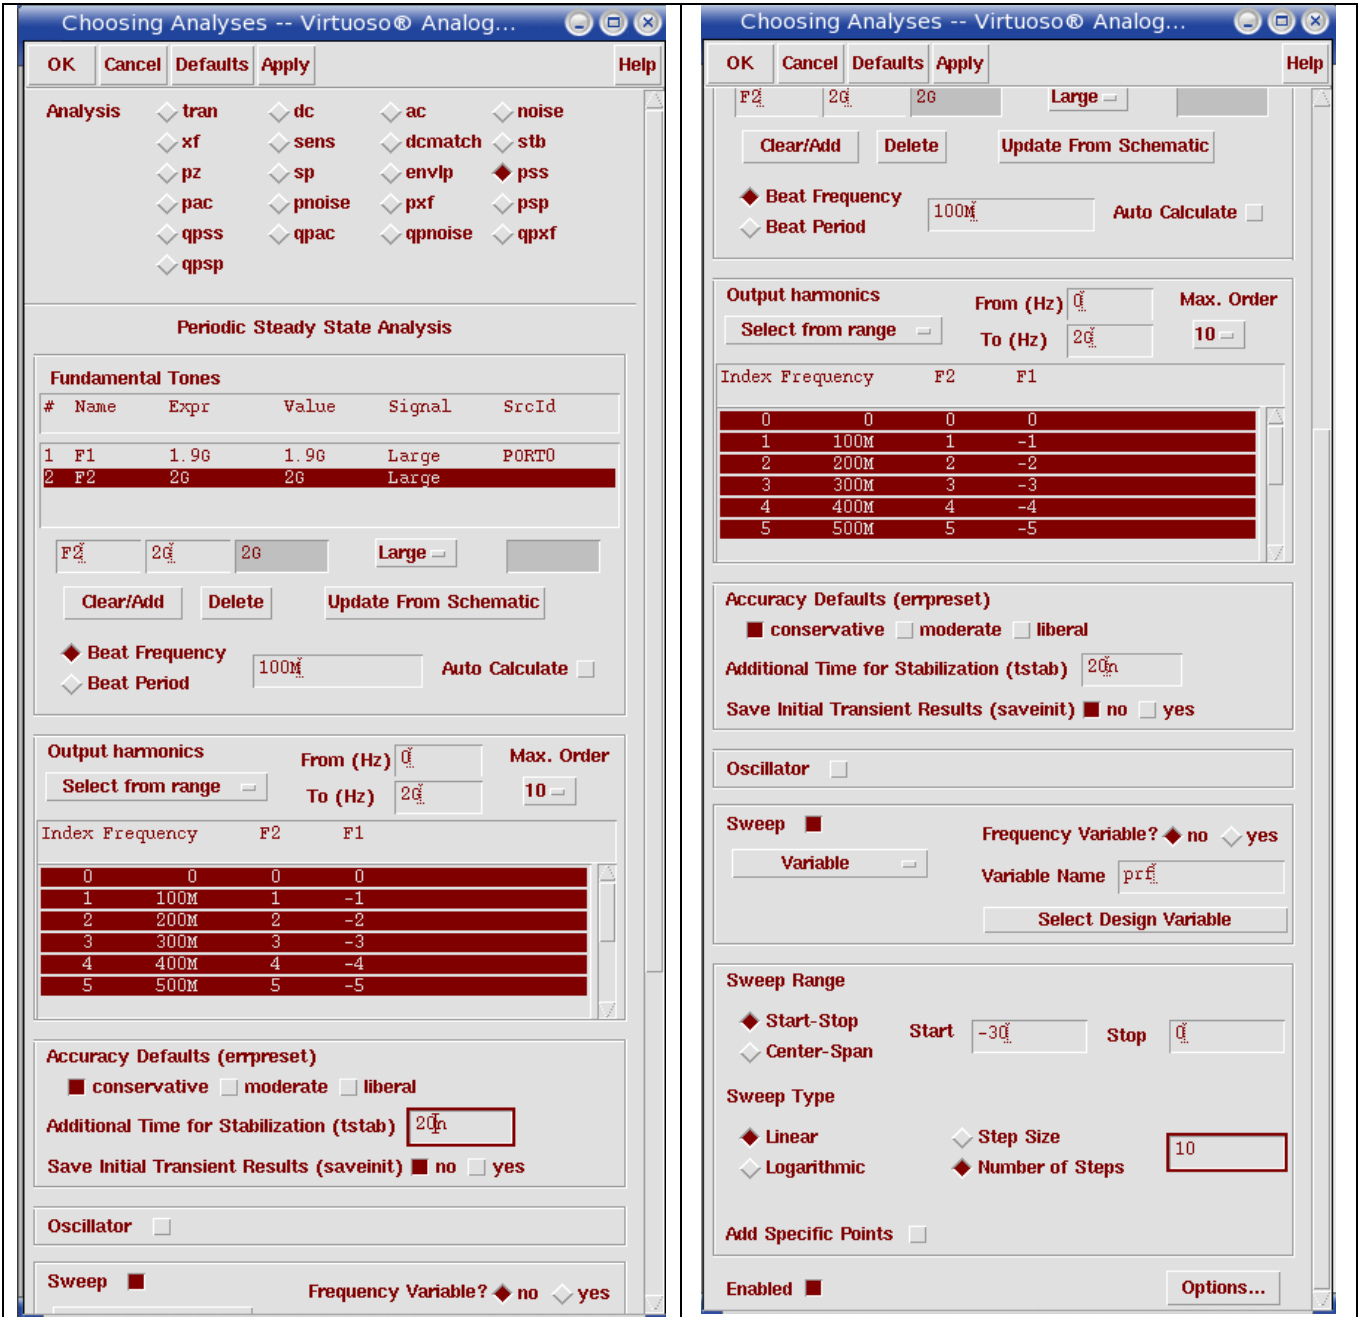

Figure 8. SPSS single tone simulation setup
3.1 Set the parameters of PORT0 back to the original values shown in Table 3 and the SPSS simulation as shown in figure 8.